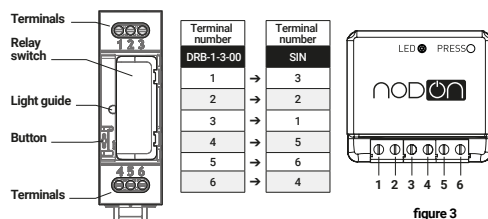

figure 3
- Connect the terminals according to your module according to the diagram (see figure 3 and 4).